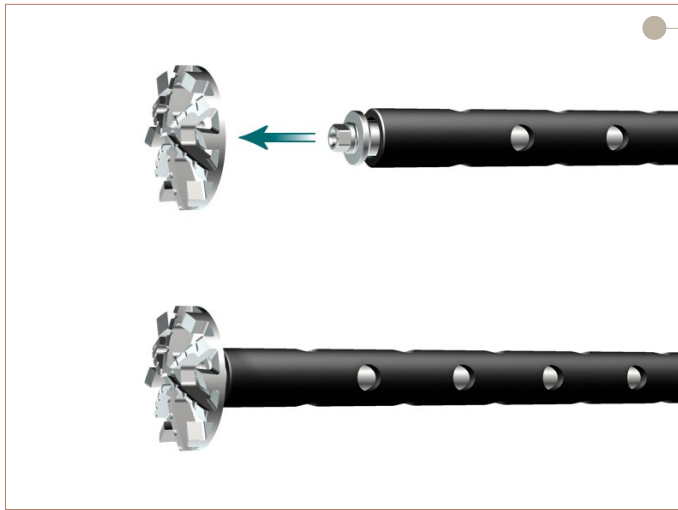

Figure 17
- Select the appropriately sized Glenoid Reamer/Planar and assemble it to the Cannulated Straight Reamer Driver via a hex shaped quick connect feature [Figure 17].